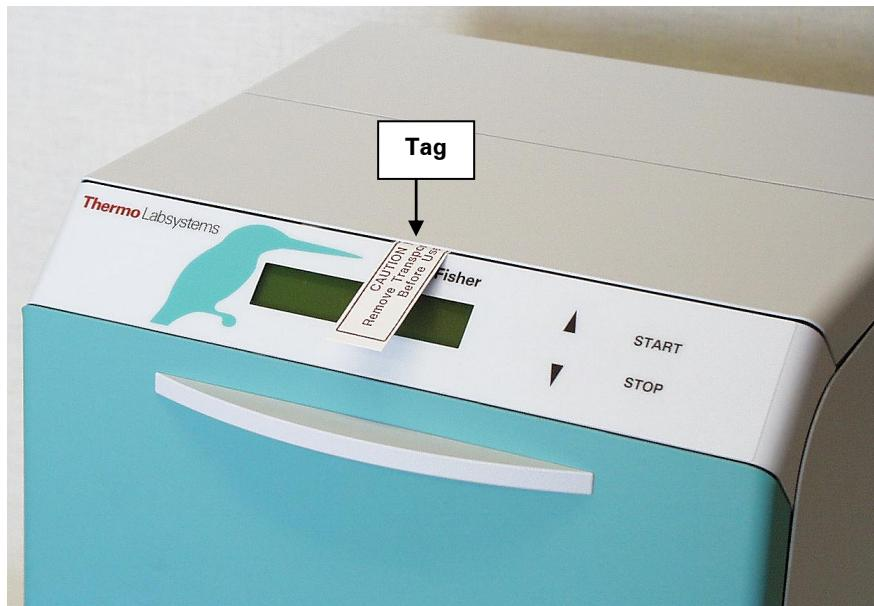
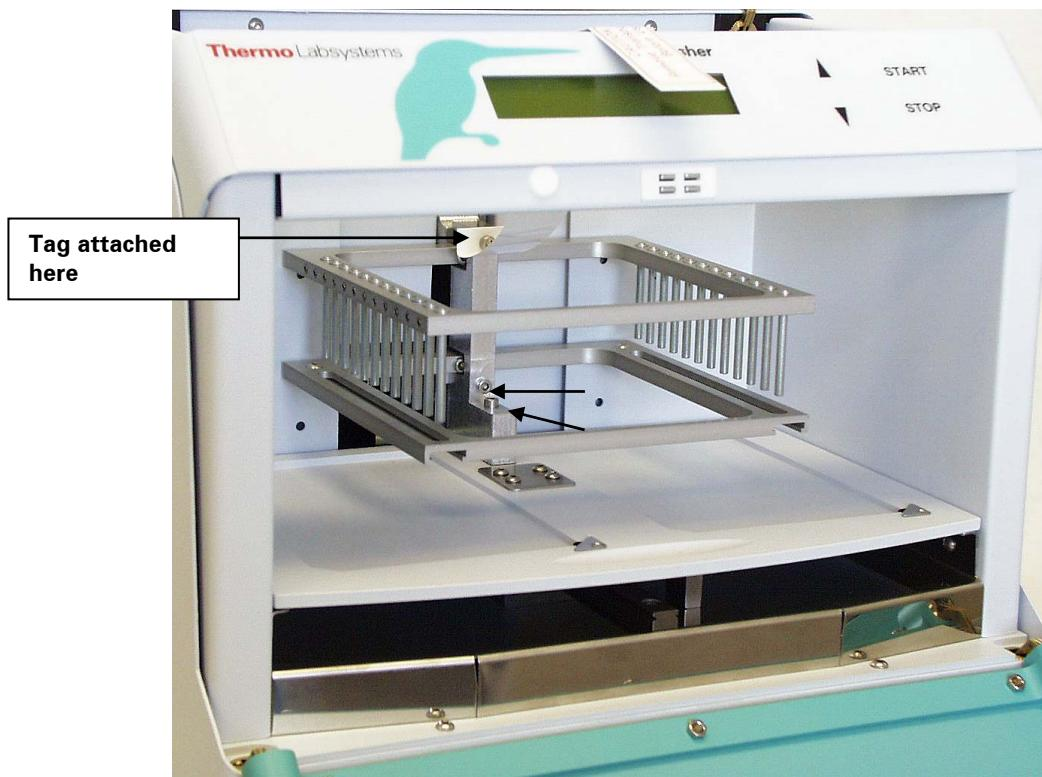

Fig. 5.1 KingFisher transport lock tag present before release of the lock piece
Fig. 5.2 Location of the transport lock screws
Note: THERE IS ONE TRANSPORT LOCK PRESENT (*Fig. 5.2*). A white tag with the red text '**CAUTION! Remove Transport Lock Before Use**' is fastened to the instrument to attract the user's attention (*Fig. 5.1*). The tag in *Fig. 5.1* and the black arrows in *Fig. 5.2* indicate where the transport lock piece is situated. Remove the tag and release the transport lock. Ensure that the transport lock has been released before you put the instrument into operation.
1. To remove the transport lock, unscrew the three screws (Fig. 5.2) with the 2.5 mm hexagonal screwdriver supplied.